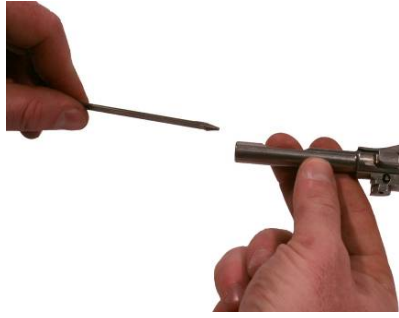

Figure 2. Removing the Firing Pin.
2. Remove the firing pin from the bolt. Refer to Figure 2.